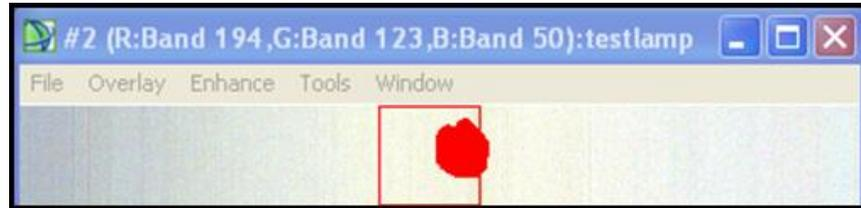

Figure 6.1a. Image from the lamp recording
- Switch to the 100X oil objective. Adjust for best focus. Then open the objective iris fully. You will see a bright field of illumination. This happens because the numerical aperture (NA) of the objective exceeds the NA of the darkfield condenser.
- After the HSI files opens in ENVI you will see an image of a bright field of pixels. Use the ROI tool to draw a region of interest in the center of the image (Figure 6.1a):